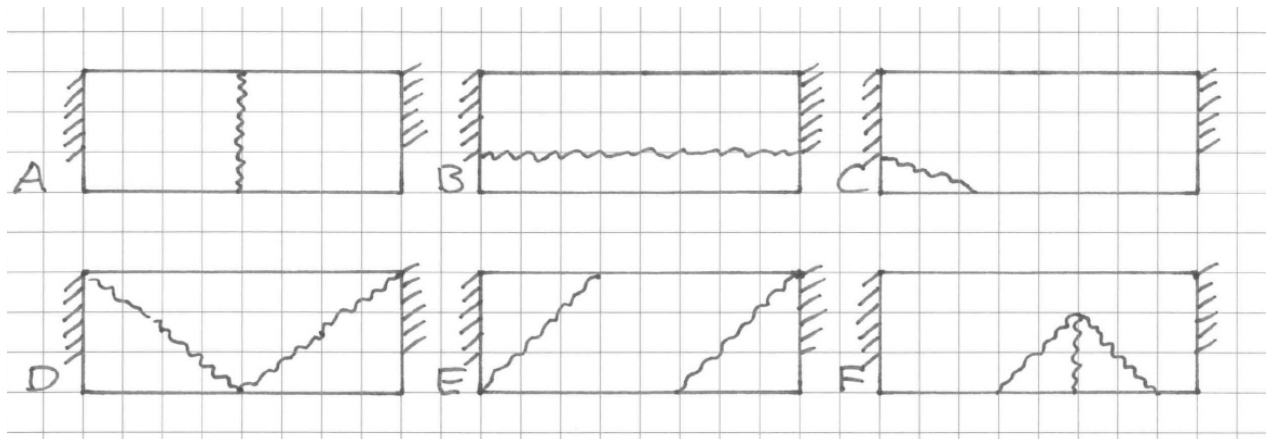

Figure 5. Yield line patterns of problem 2a
- a Consider the yield line patterns of Figure 5. Which of these patterns give kinematically possible mechanisms? (1 point)